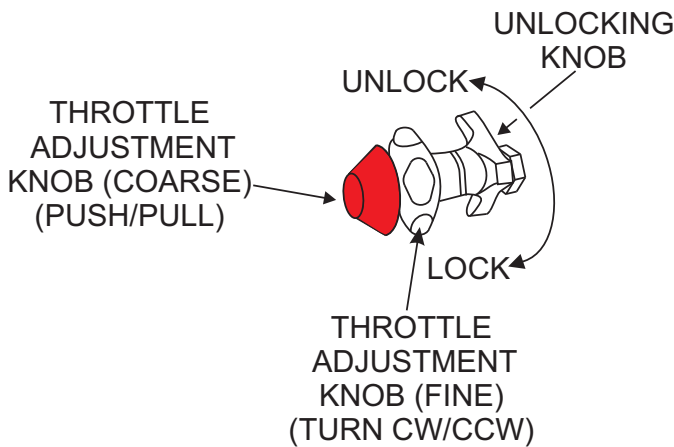

Figure 17. Throttle Control Knob (Un-locking)
1. Turn the inner most knob counter clockwise to unlock the **throttle cable** (Figure 17).